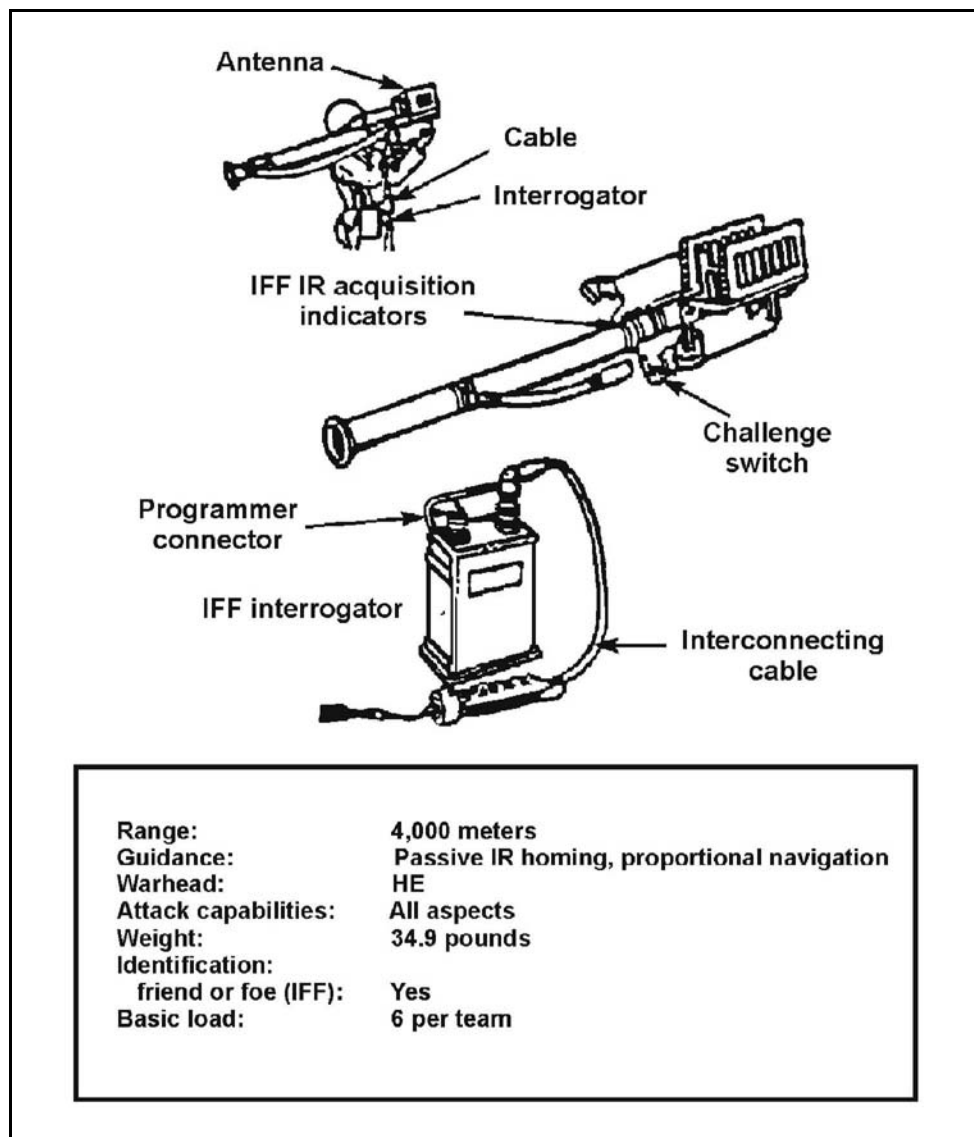

Figure 8-21. Stinger MANPADS air defense system.
a. Stinger. Although other SHORAD systems support divisional units, the SBCT infantry platoon is most likely to be supported by the Avenger (Figure 8-20) or a MANPADS (Figure 8-21, page 8-32). Stinger is designed to counter high-performance, low-level, ground attack aircraft; helicopters; and observation and transport aircraft.
(1) The Avenger's combined arms mission is to provide protection to combat forces, combat support elements, and other critical assets from attack. The Avenger is designed to counter hostile cruise missiles, unmanned aerial vehicles, and low-flying, high-speed, fixed-wing aircraft and helicopters attacking or transiting friendly airspace. The Avenger provides